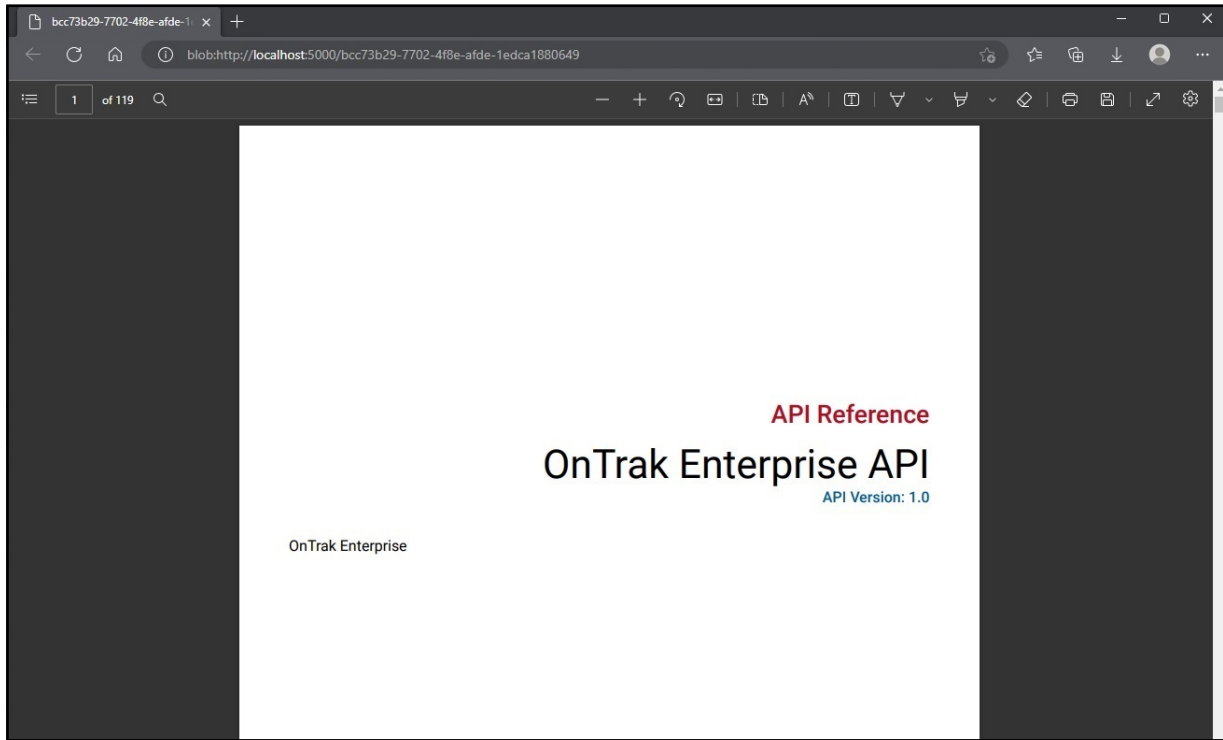

Figure 13-3. API Document Opened In Internet Browser
5. Review the API documentation (see Figure 13-3 on page 162).